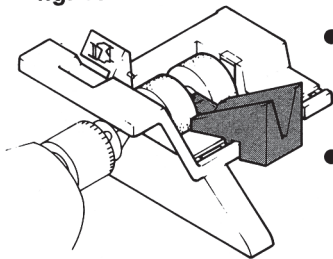

fig. 14
- Present the wood bit guide to the grinding bed at an upward angle of about 45° and fit the slot on the narrow part of the guide around the flange between the two grinding wheels. Press the guide down onto the grinding bed so that it locks into position (fig. 14).